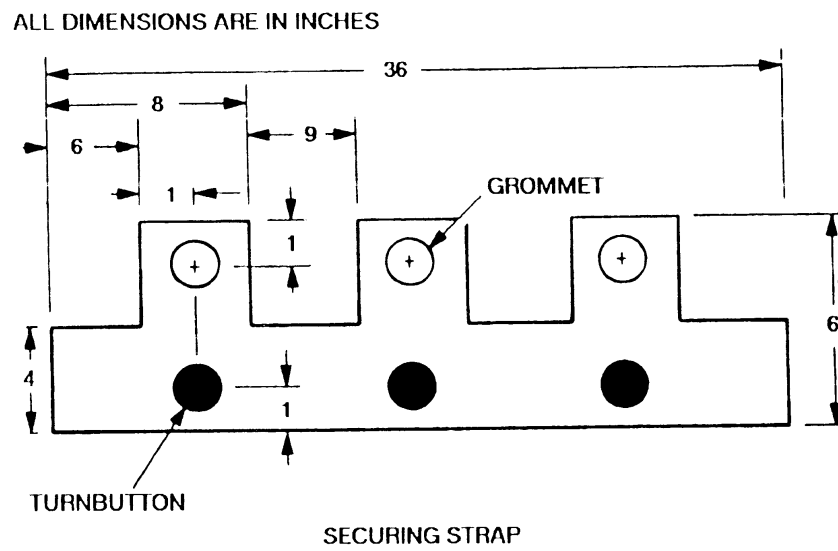

FIGURE 8-3
- C. STRAP C (2 ea.) - Approximately 36" long x 6" wide. These will serve as the securing straps and should be fashioned as illustrated in Figure 8-3.